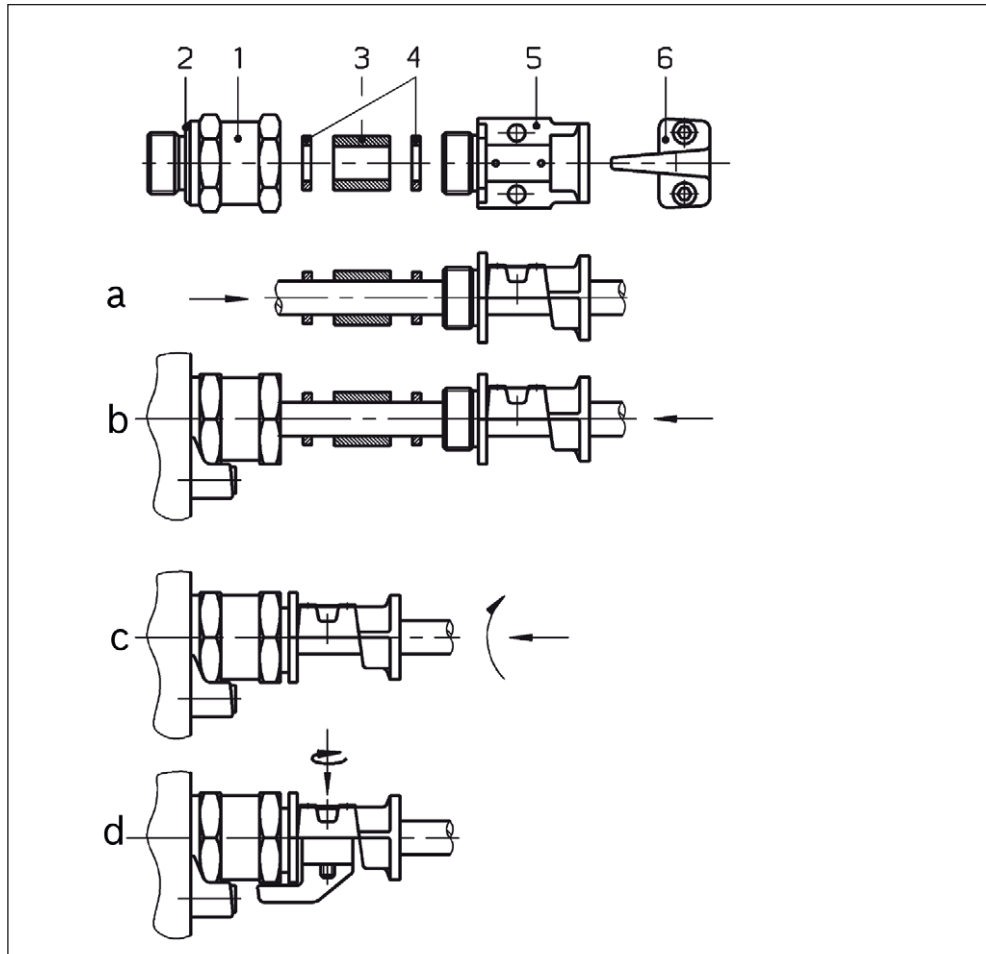

Fig. 4: Cable and line entry
4. Assemble the cable and line entry as displayed in figure 4 "Cable and line entry".